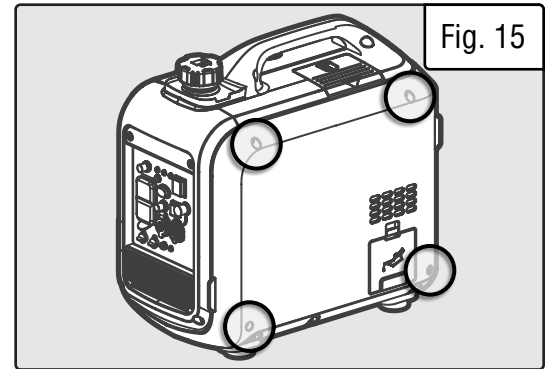

Fig. 15
3. Using a Phillips-head screwdriver, remove the four screws on the side panel as shown in Fig. 15.
1. Using a Phillips-head screwdriver, remove the four screws on the side panel as shown in Fig. 15.